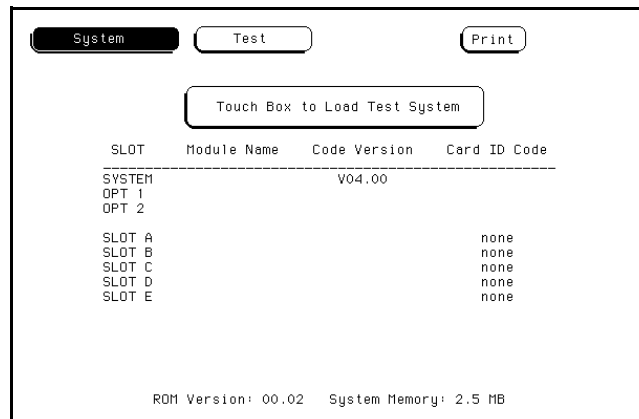

Figure 6-5. Loading the Test System Software
3. Verify that test files are on an installed disk and that all valuable data has been stored. Touch the field close to the center of the screen to load the test system. See figure 6-5.